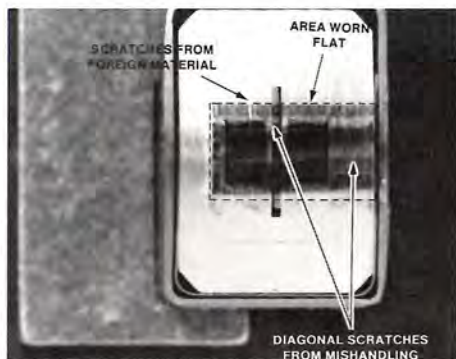

Fig. 4. Tape head damage to look for.
3. If the head is dirty, continue with this procedure. However, if the head is damaged or worn, it should be replaced by a Tektronix Field Service Specialist. (Refer to Fig. 4.)